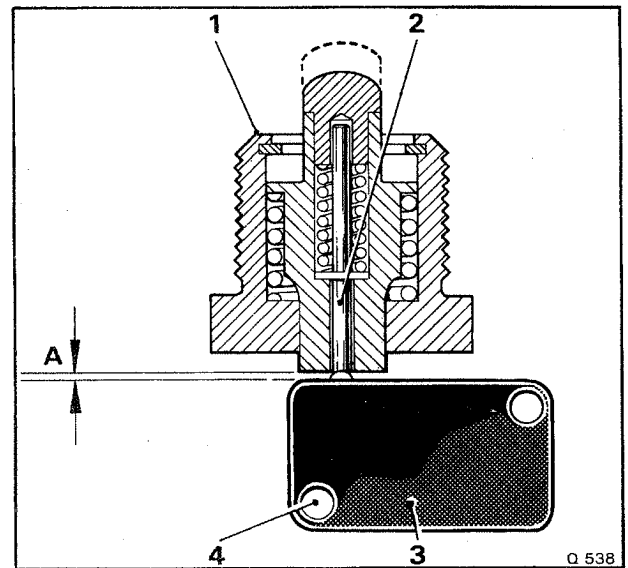

Fig. K101 Kickdown micro-switch assembly
4. Ensure that with the main plunger fully depressed it is still clear of the micro-switch case (see Fig. K101).